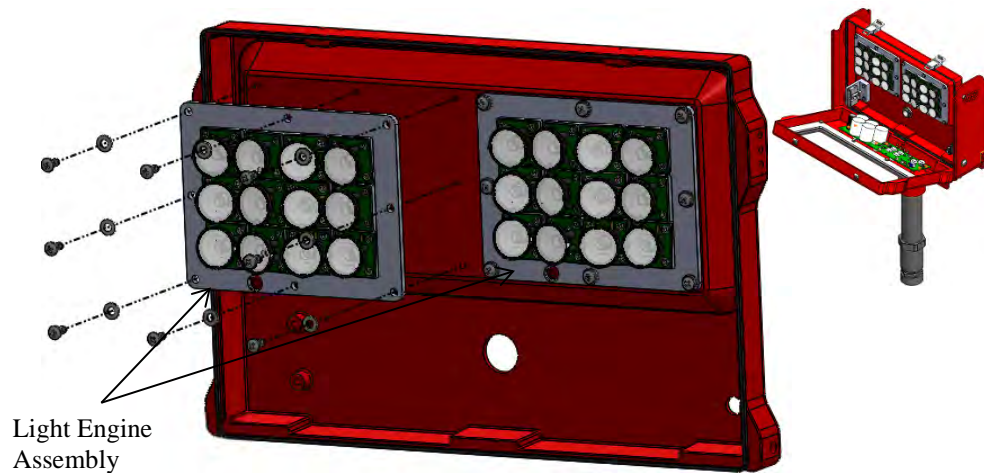

Figure 7-9 Light Engine Assembly
2. Set Dip Switches as required per Figure 7-7 and Figure 7-9.
See Figure 7-9.